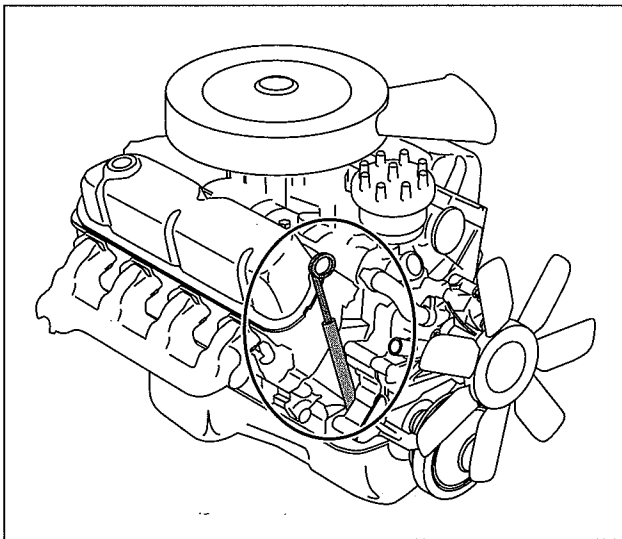

Figure 3-9:
1. When the engine is cold (or has been off for at least ten minutes), pull out the dipstick (the one with a ring on the end of it that sticks out the side of the engine, as shown in Figure 3-9) and wipe it off on a clean, lint-free rag.